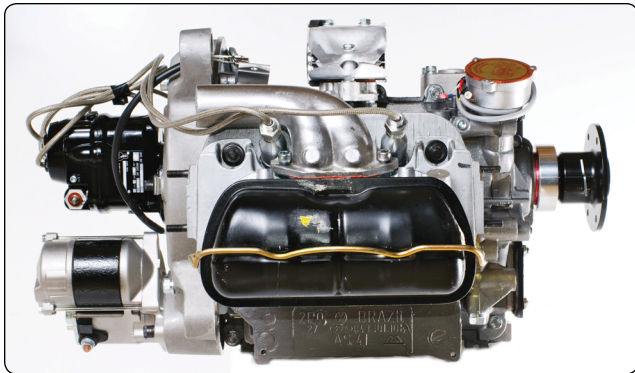

Figure 11-23. *Great Plain's Volkswagen conversion.*
Great Plains Aircraft is one company that offers several configurations of the Volkswagen (VW) aircraft engine conversion. One very popular model is the front drive long block kits that offer a four-cycle, four-cylinder opposed engine with horsepower ranges from approximately 60-100. [Figure 11-23] The long block engine kits, which are the complete engine kits that are assembled, in the field or can be shipped completely assembled, are available from 1,600 cc up through 2,276 cc. All the engine kits are built from